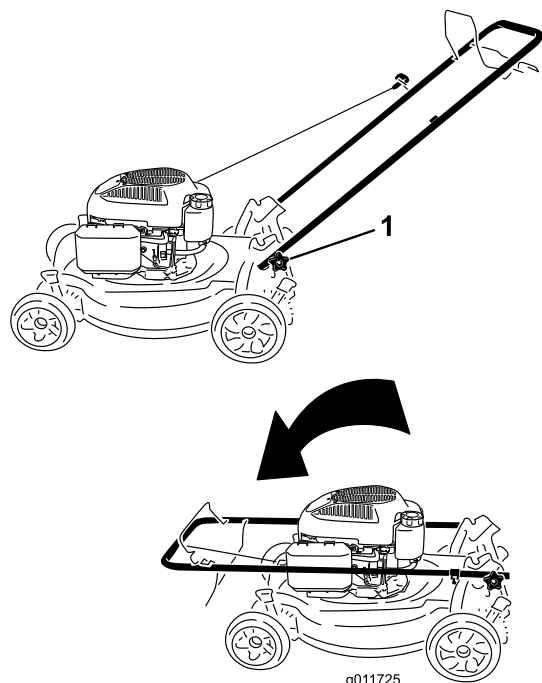

Figure 25
1. Loosen the handle knobs until you can move the handle freely (Figure 25).
1. Handle knob (2)
2. Move the handle forward as shown in Figure 25.